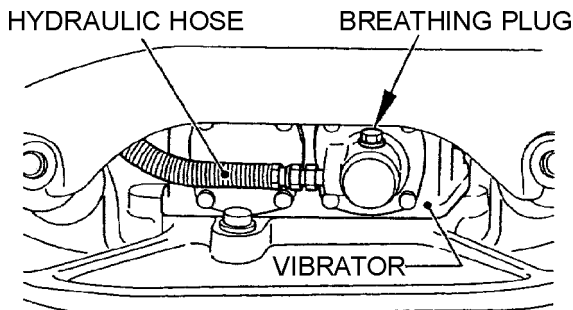

Figure 17. Hydraulic Hose
NEVER attempt to check the V-belt with the engine running. Severe injury can occur if your hand (Figure 17) gets caught between the V-belt and the clutch. Always use safety gloves.
1. After removing plug cap of hand pump (Figure 6), remove plug of breather (24 mm wrench) and disconnect vibrator side of hydraulic hose (Figure 17) at vibrator cylinder. With travel lever placed in the **FORWARD** position, drain hydraulic oil in the pump.